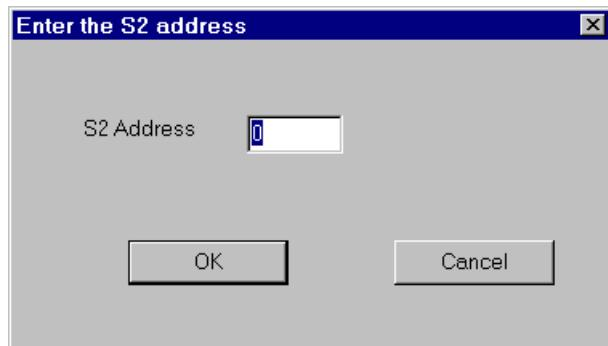

Figure 4.22 S2 Address dialog box
- Select "Assign S2 Address" to open the dialog box shown in figure 4.22.